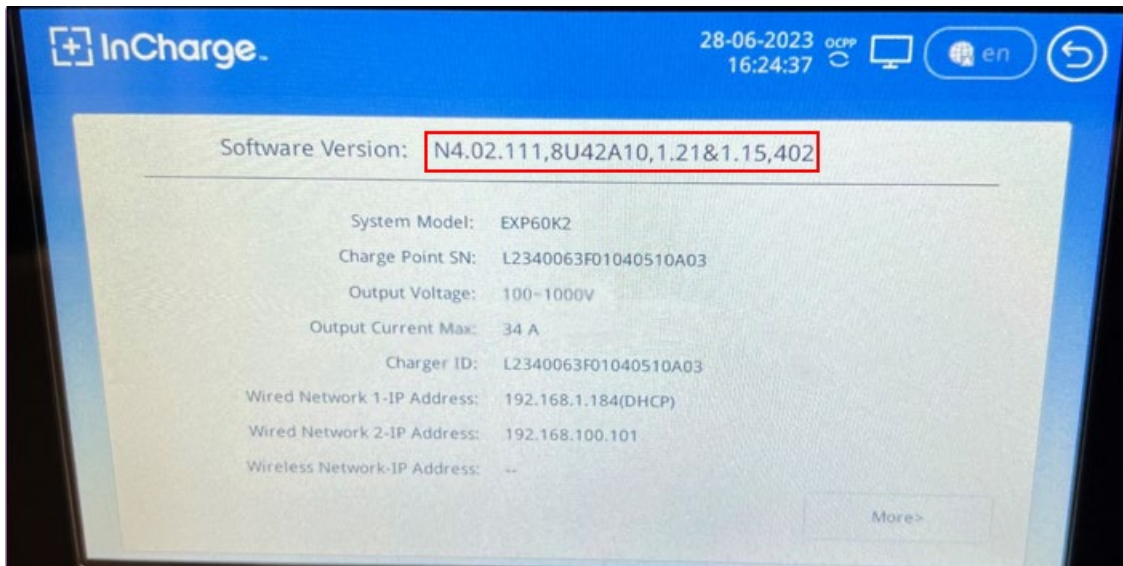

Figure 7.2: Software Version
- The following figure 7.2 software version is for reference only, the actual situation shall prevail.